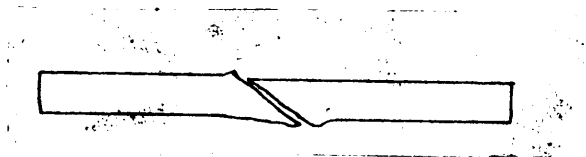

Figure 5.
1. Scarf weld, is the weld most frequently used. It is suitable for welding round, flat or square stock. It is used for rods, bolts, rings, links and single tree clips. (Figure 5).